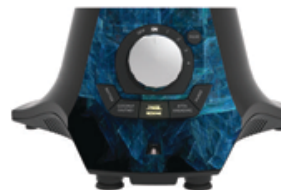

Figure 5
5. Once the grinding cycle is complete as per program, the selected LED lights will blink to indicate end of the grinding cycle (Refer Figure 5)